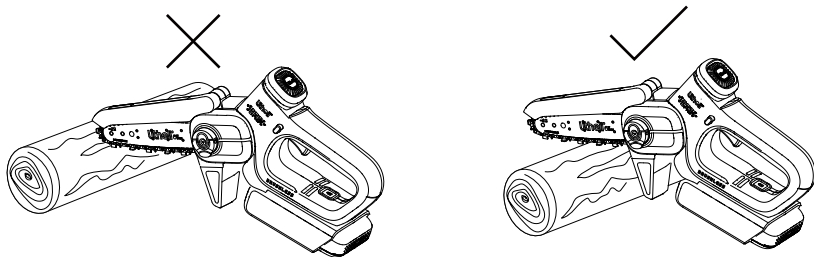

Fig. 16
5. Use the Bumper Spikes as a leverage point while cutting. (See Fig. 16)